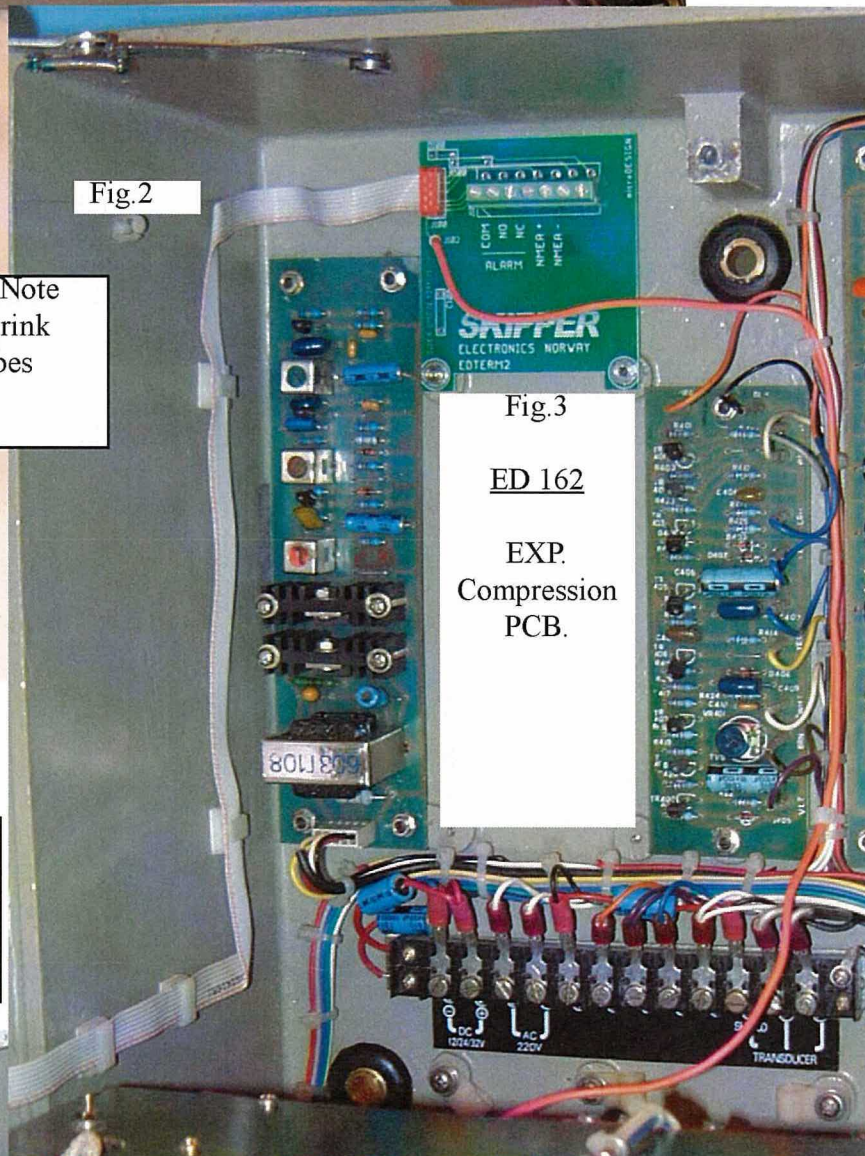

Fig.3
3. Mount the EDTerm2 board in the cabinet as shown in the picture (Fig.2). Use the treaded bolts, spring washers and nuts enclosed to fasten the board to the cabinet. Be aware that ED162 already have a board installed in the same attachment points. The treaded nuts enclosed are long enough to attach both boards. (Fig.3)